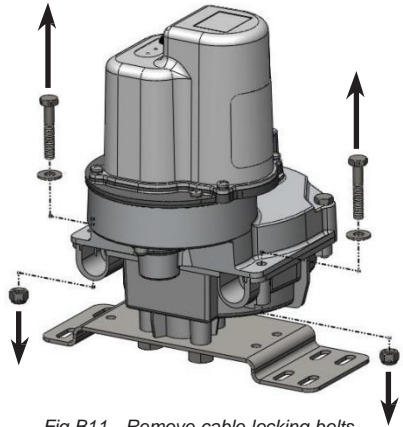

Fig B11 - Remove cable locking bolts
- i) Remove the lock bolts, nuts and washers from both ports (Fig B11).